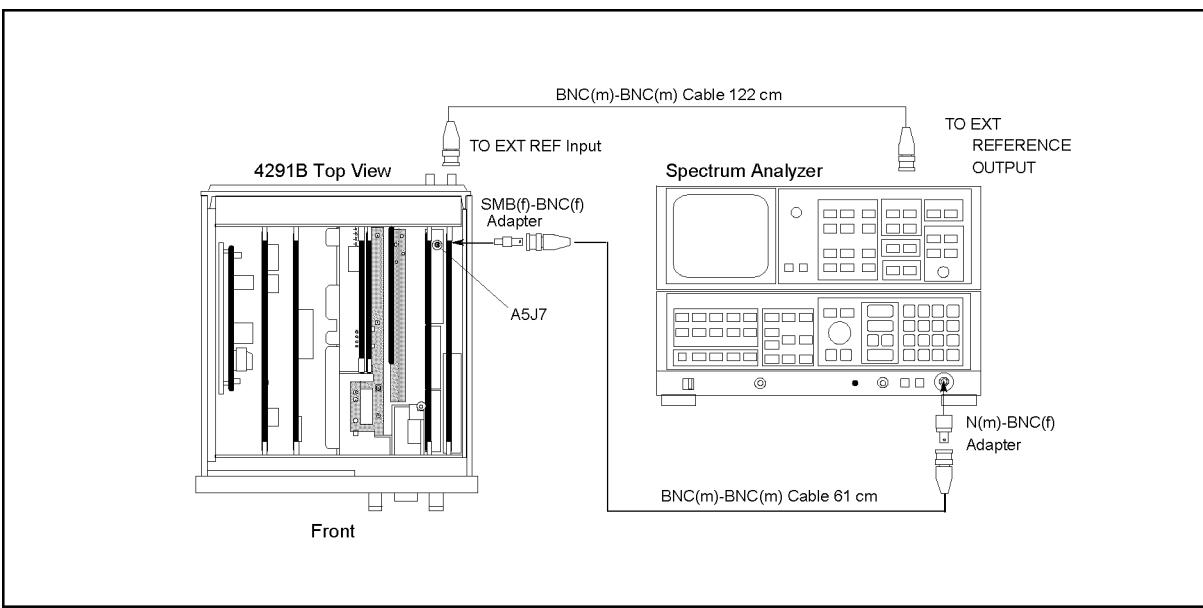

Figure 7-5. FRAC N OSC Signal Level Test Setup
d. Remove the "H" cable from the A5J7 "FN OUT" connector. Then connect the equipment as shown in Figure 7-5.